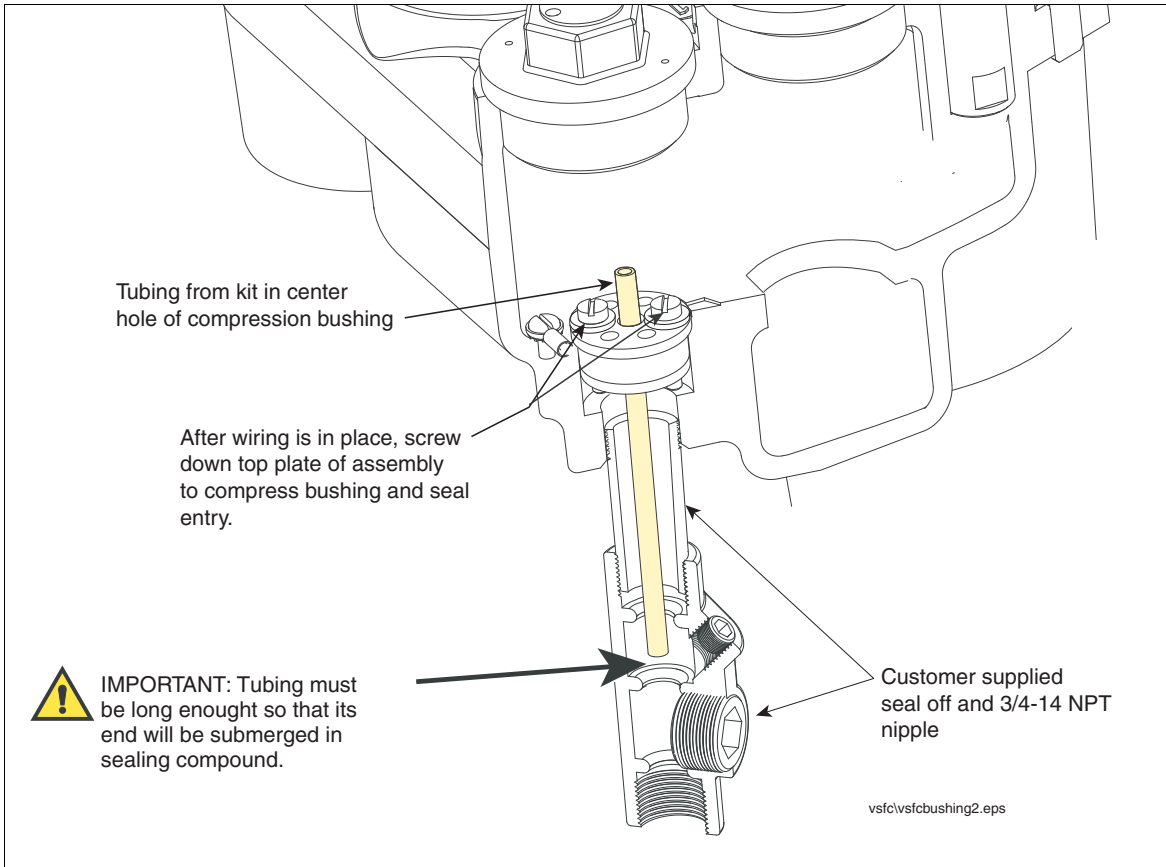
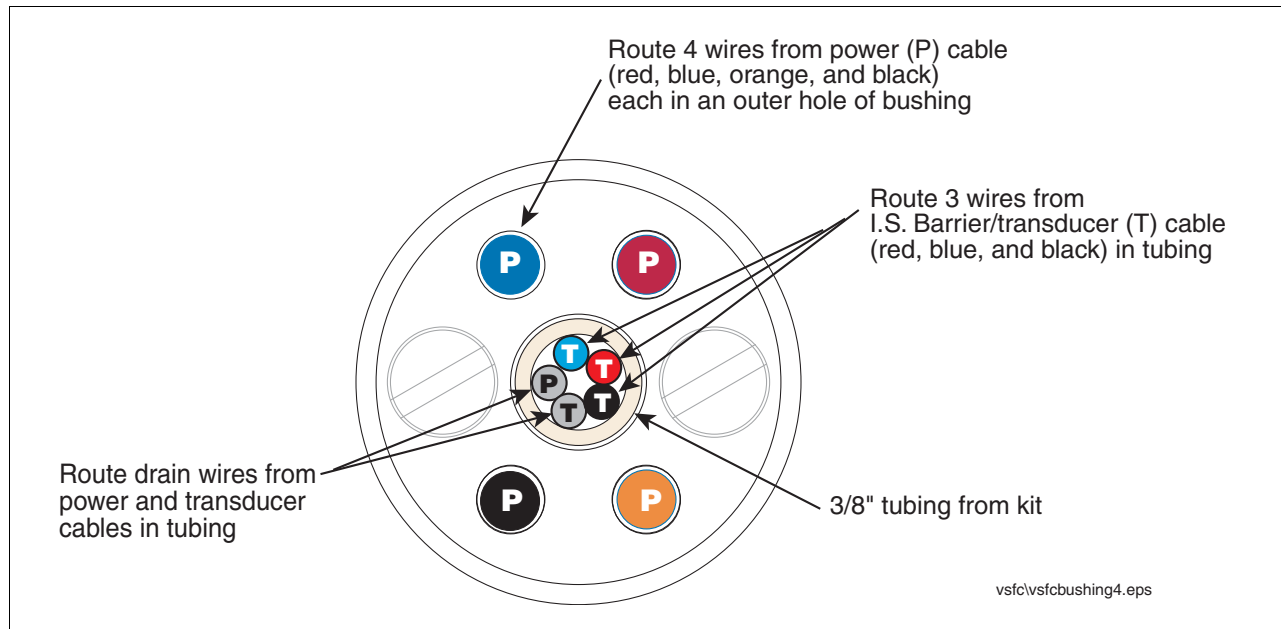

Figure 17. Installed tubing from kit in compression bushing
Figure 19. Recommended power wire/I.S. Barrier (transducer) wire entry through the compression bushing
3. The compression bushing is used to water seal the wiring entry port of the VSFC STP. Figure 17 through Figure 19 illustrate the recommended installation of the bushing in the VSFC STPs with and without an I.S. Barrier.